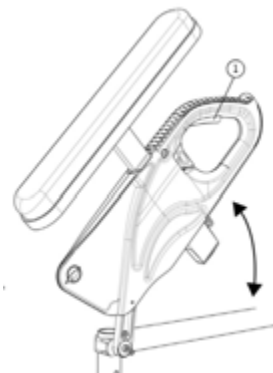

Fig. 5
- Pull lever (1) (Fig. 5) upwards to release the system.